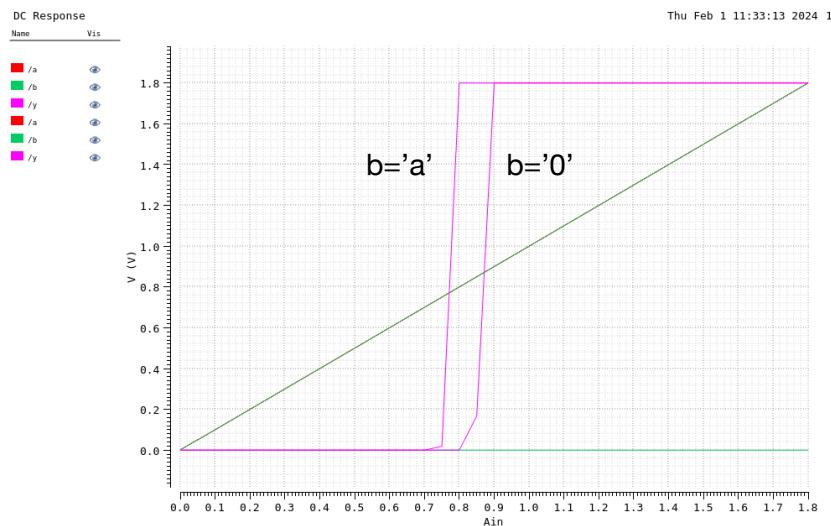

Figure 8. DC simulation results of nor2.
The switching characteristics of the or2 cell were simulated by using the DC simulation tool and the Spectre simulation software. Figure 8 shows the output ‘y’ (shown in pink) versus the input ‘a’ (shown in green) for two cases: (1) input ‘b’ was held fixed to 0 V and (2) input ‘b’ was equal to ‘a’ as the input was swept from 0 V to VDD in 0.05 V increments. In both cases, the output switches from 0V to VDD as expected and prior to ‘a’ reaching the midpoint (0.9 V). This “early switching” is a result of the mismatch in the nor2 as previously discussed. Note that since the nor2 cell is followed by the inv1 cell, the switching characteristics are sharper – this is due to the two gates in series both having to reach their switching points before passing the logic state.